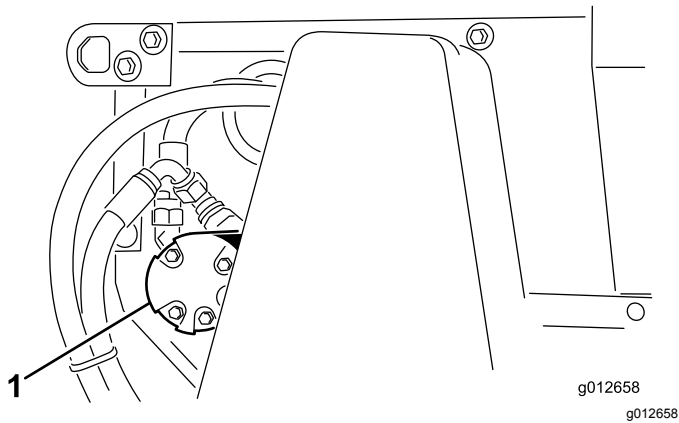

Figure 38
2. Loosen nuts that secure the brush motor (Figure 38) to left side of machine.